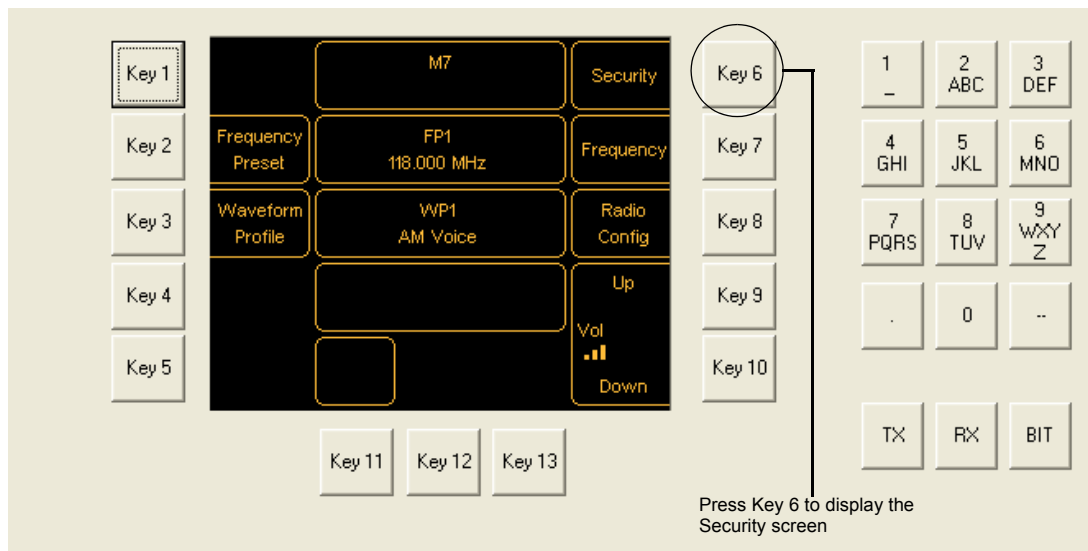
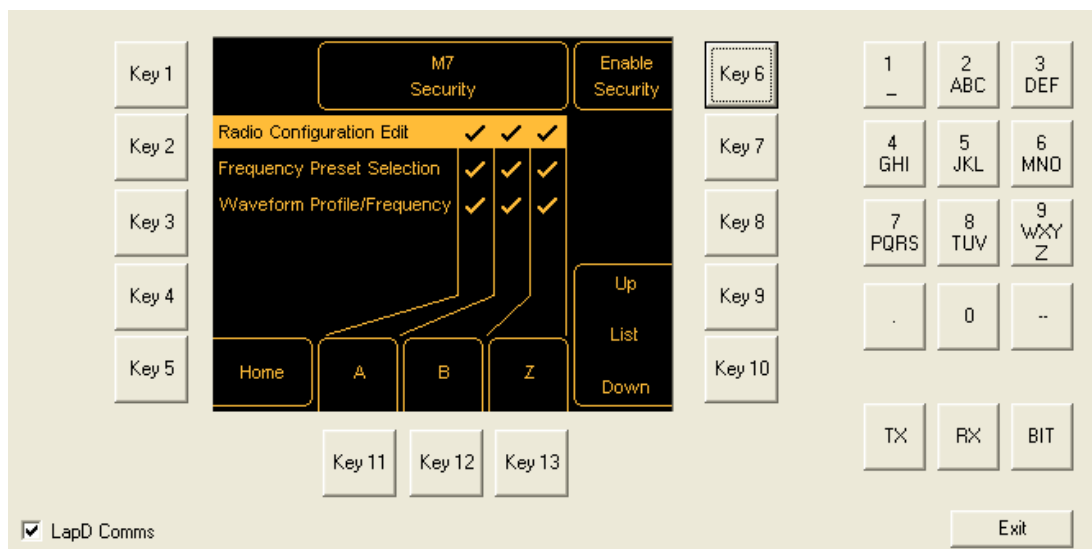

Fig 3-46 Home Screen – Security Set Up
Fig 3-47 Security Screen (Example A)
- (1) From the Home screen (Fig 3-46) press *Key 6 – Security* to display the Security screen (Fig 3-47).
- (2) The Security screen shows the restrictions applicable to profiles SPA, SPB and SPZ. A restriction is indicated by a cross (X) and no restriction is indicated by a tick (✓). The example shown in Fig 3-47 has no security restrictions. To set up the profiles press *Key 6 – Enable Security*.